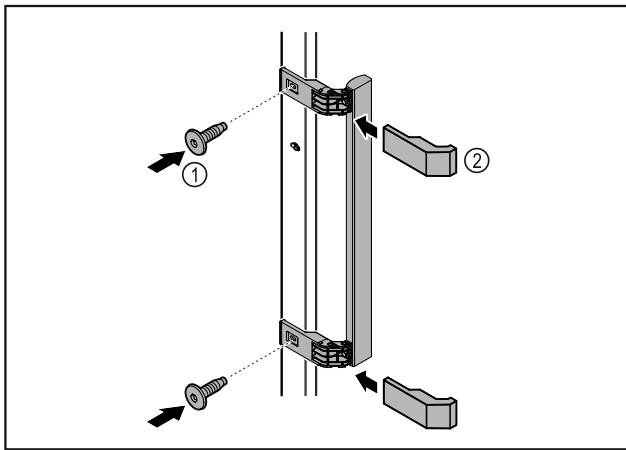

Fig. 49
- ▶ Attach handle from accessory kit to the door using the screws supplied Fig. 49 (1).
- ▶ Put on cover Fig. 49 (2).